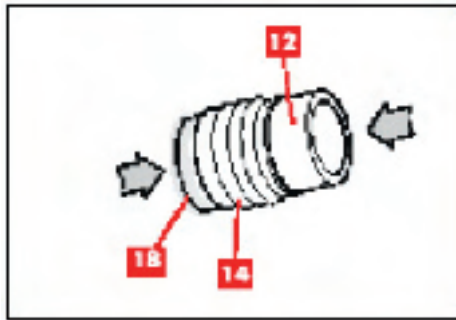

Figure 27 —Insert the dust boots on the piston
20. Unscrew the bleeding screw (5).
25. Insert the dust boots (14) on the pistons (12) (see Fig. 27).